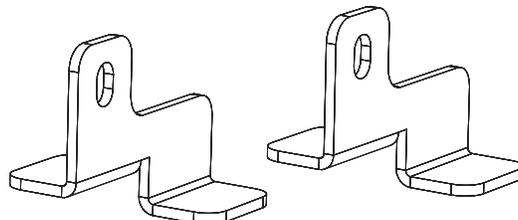
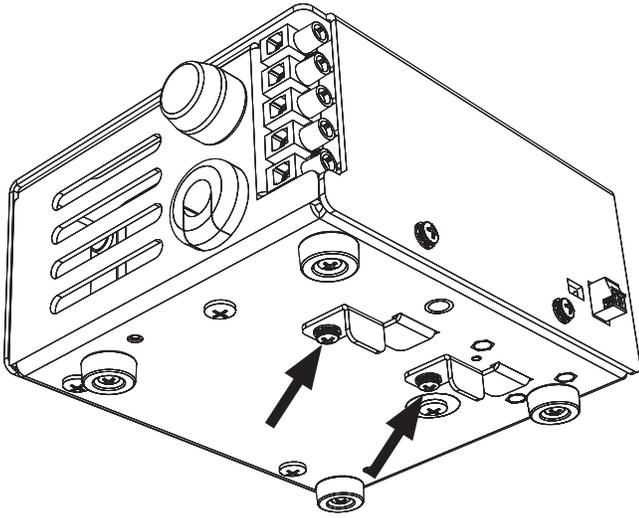
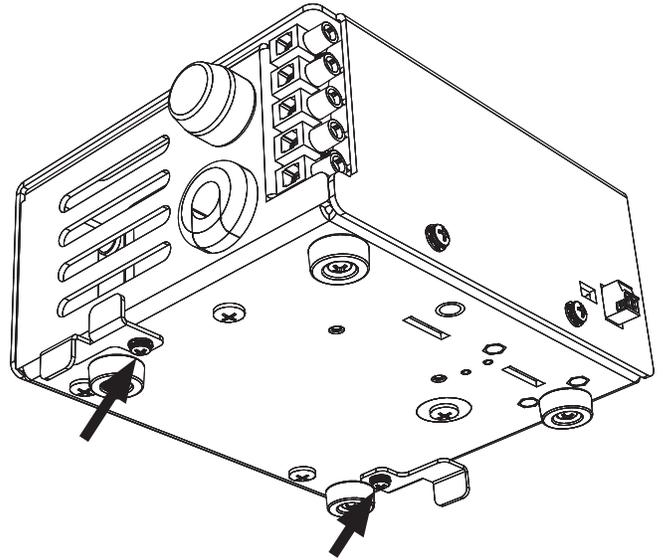

Fig. 2, Mounting Clips
Fig. 3, Mounting Clips – XM3 Configuration
Fig. 4, Mounting Clips – XM2 Configuration
1. Secure the transformer in position using two mounting clips (Fig. 2). By default, the mounting clips will come installed in the XM3 configuration (Fig. 3). For mounting on an XM2, remove the mounting clips from their default location and orient them as shown in Fig. 4, with the longer side of the clip facing downward, adjusting the width of the clips to fit the body of the XM2. Secure the clips to the base of the transformer using two #6-32 3/8" screws. Apply 9 –13 in-lbs (1 – 1.5Nm) of torque.